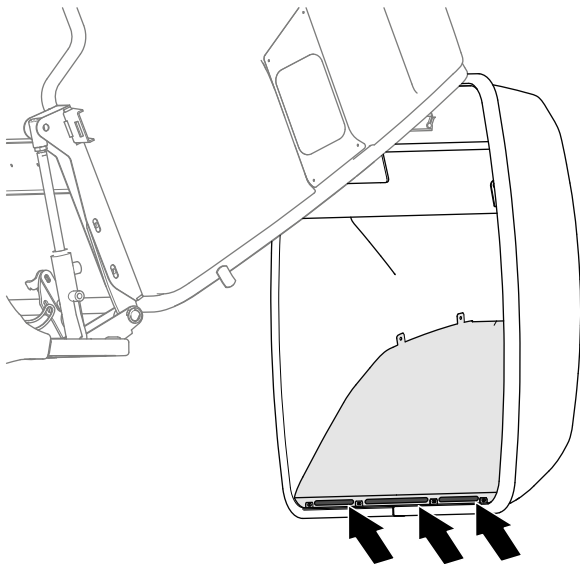

Figure 141
6. Using compressed air, clear the grass and debris from the slots in the bottom of the internal metal plate of the hopper door. (Figure 141).